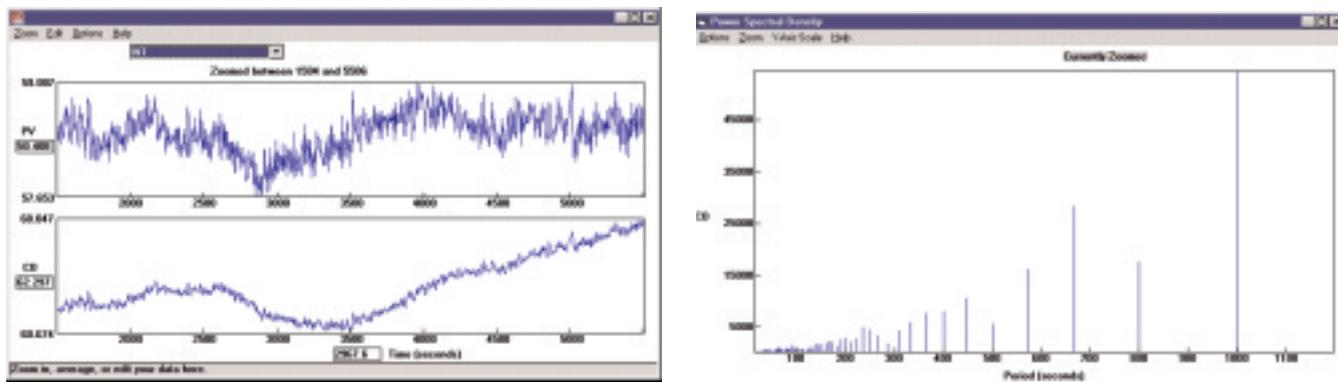

Figure 4. The pulp consistency controller data and the PSDA interpretation
As a check, data was collected from the pulp consistency loop at the output of the machine chest. The results are shown in Figure 4. The left graph shows the closed-loop time response of the consistency (PV) and the output of the consistency controller (CO). Again, it is difficult to reach any conclusions from this time response data. Running a power spectral density calculation on the CO, however, again shows a large spike at 1,000 seconds (see Figure 4, right).